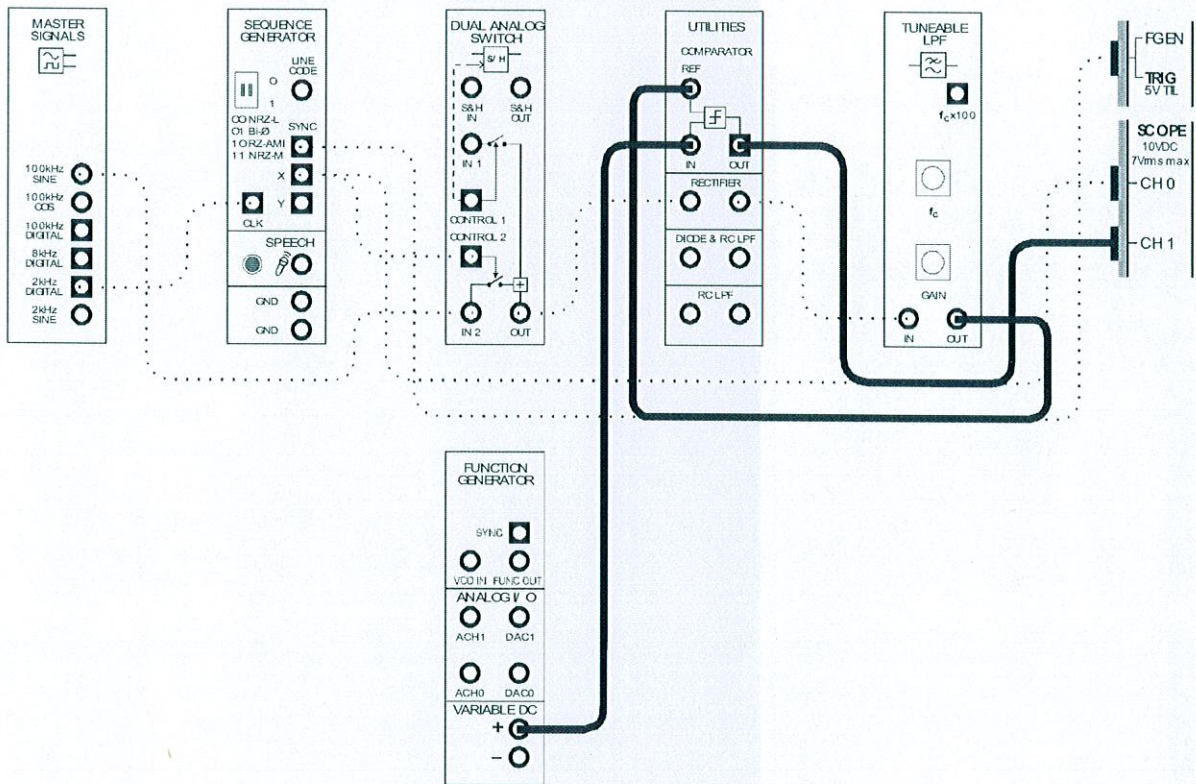

Figure 8
22. Modify the set-up as shown in Figure 8 below.